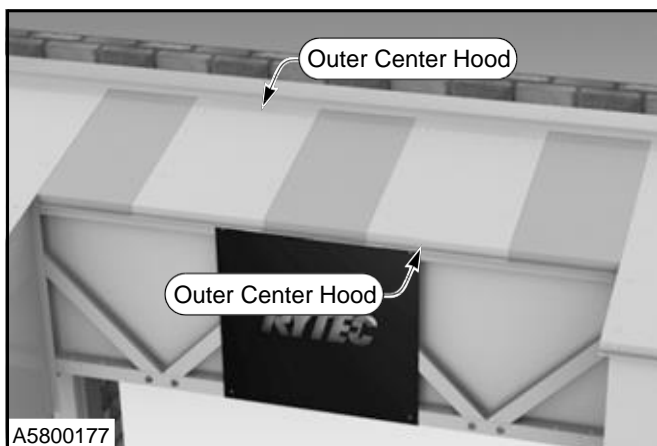

Figure 48
20. Install outer center hoods over the inner hoods. Use $\frac{1}{4}$ -14 x $\frac{3}{4}$ self-drilling screws to secure panels in place. (See Figure 48)